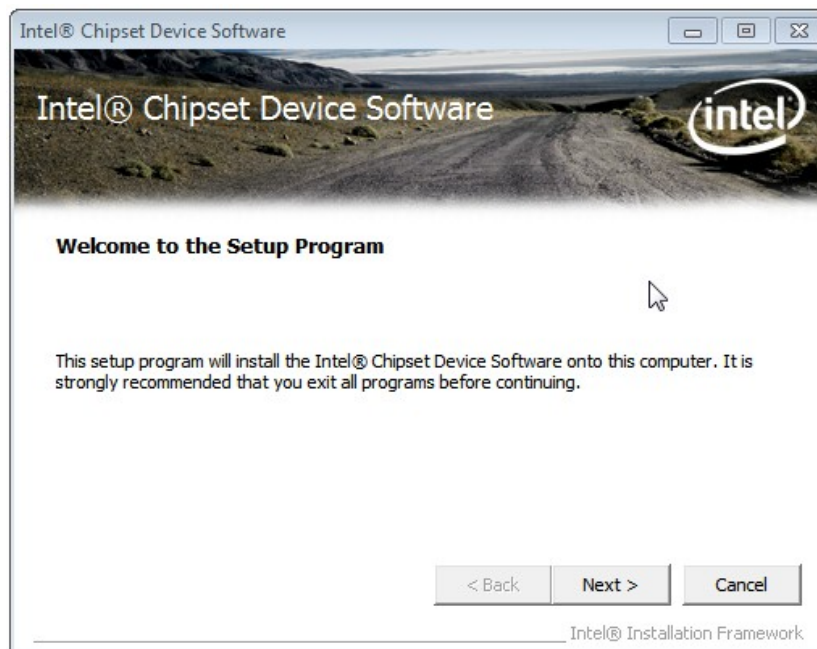

Figure 6-4: Chipset Driver Welcome Screen
Step 7: When the setup files are completely extracted, the **Welcome Screen** in **Figure 6-4** appears.